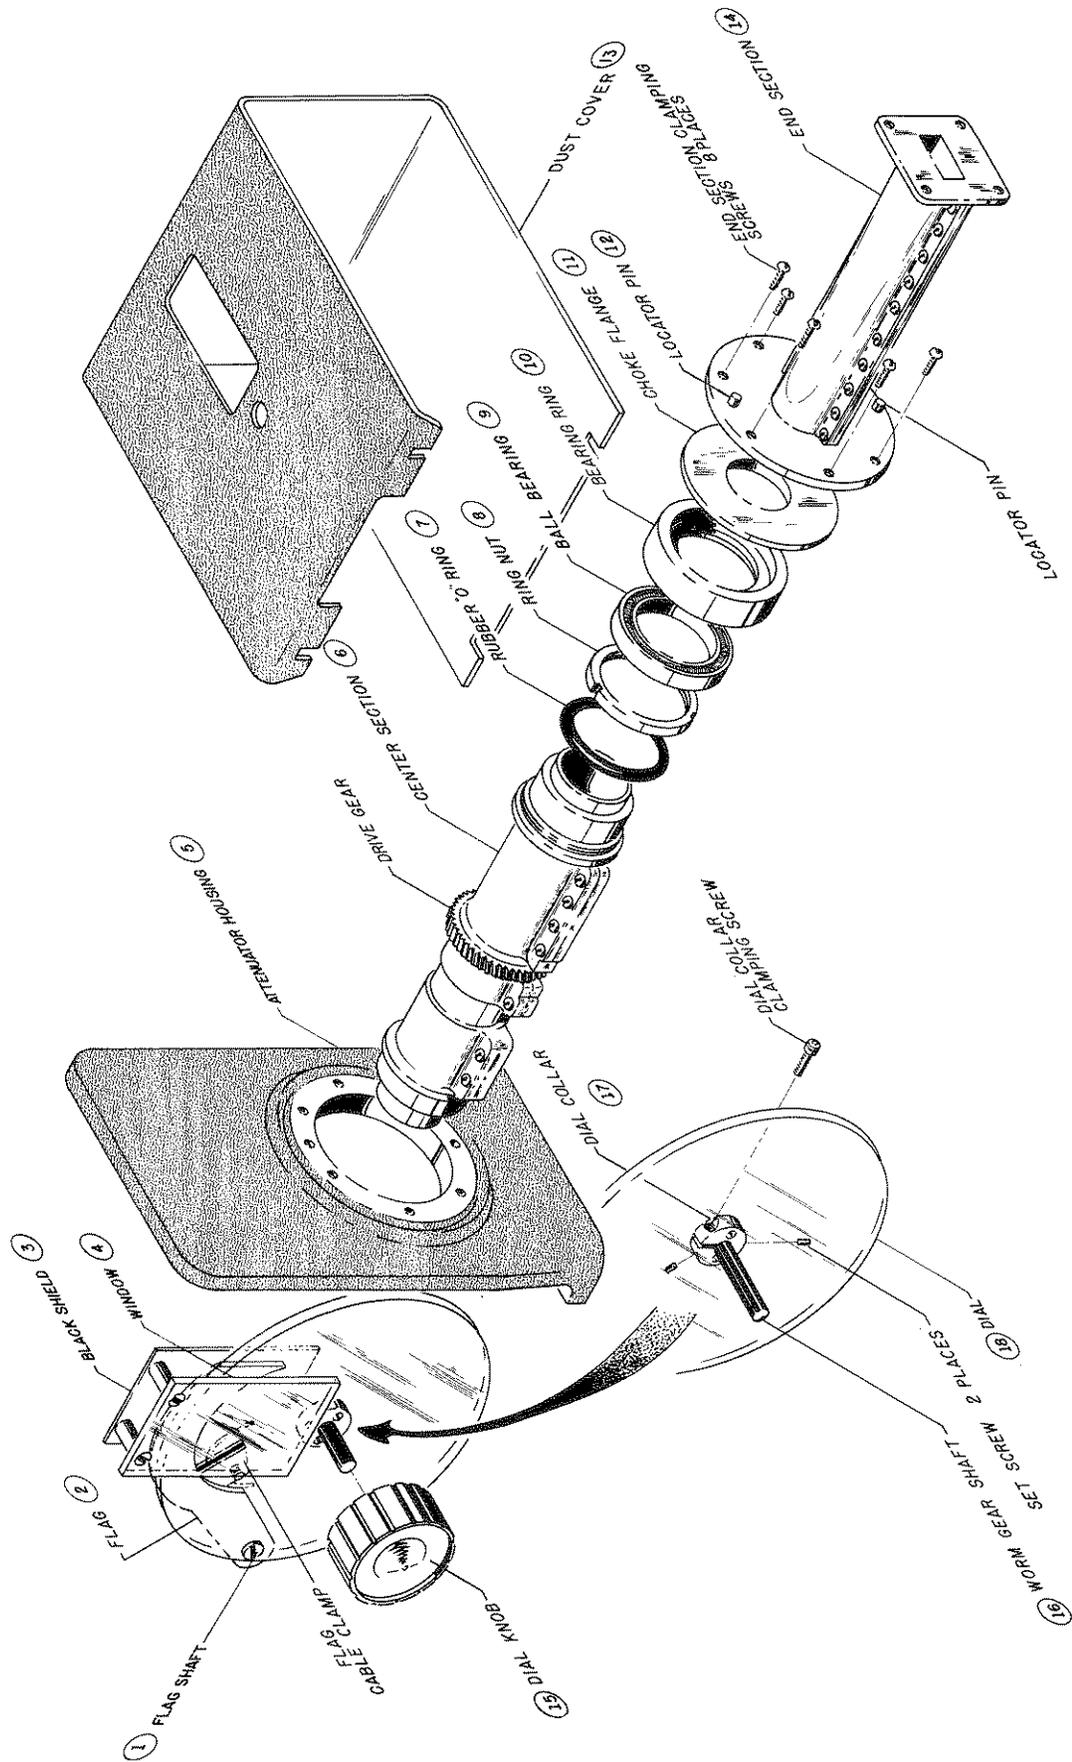

Figure 7. HP Model 382A Attenuator Assembly Detail
- (1) Remove dial knob and dust cover (see Figure 7).
- (2) Turn dial fully clockwise. Note: Center card passes thru the horizontal and meets a stop approximately 1/32 of an inch beyond this point (as measured at edge of card).
- (3) Note position of flag with respect to dial. The flag should be at the bottom of travel and the dial "0" (zero) should be to right of the center line.
- (4) Loosen clamping screws on flag drive cable. Free flag.
- (5) Drive locator pins to center of unit with punch. See Figure 7. Note: In some models the drive pin is an integral part of the casting. If pins are not visible from the outside, disregard step 5.
- (6) Remove the 8 screws holding the end section in place. Remove end section.
- (7) With dial set to "0" (zero) mark top of center section as shown in Figure 7. Remove center section through end section opening.
- d. Part number check digit (CD).
h. See Figure 7 for pictorial key to Ck Ref. Item numbers listed below.
69. To obtain a replacement part listed in Table 4, order the part by the HP part number and Check Digit (CD). To order a part that is not listed, specify model and complete serial number of instrument, a description of the part and its function and location. Address order to your nearest Hewlett-Packard Field Office.